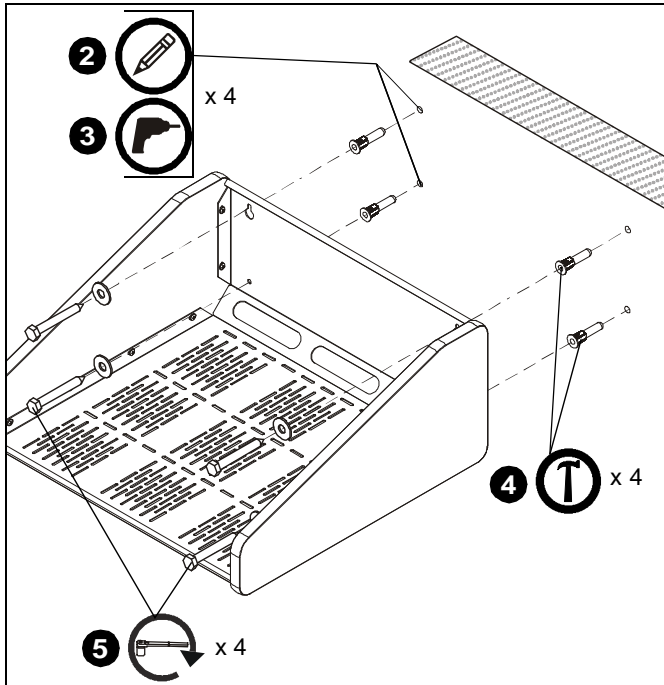

Figure 2
- Using a level, mark the wall 16" apart for the two top mounting holes, and 5" below the top mounting holes for the two lower mounting holes. (See Figure 2)
- Drill four 5/16" (7.9mm) pilot holes at points marked in Step 2. (See Figure 2)
- Install an anchor (not included) into each pilot hole. (See Figure 2)
- Use four 5/16 x 2-1/2" lag bolts (not included) and four 5/16" flat washers (not included) to attach shelf to wall. (See Figure 2)